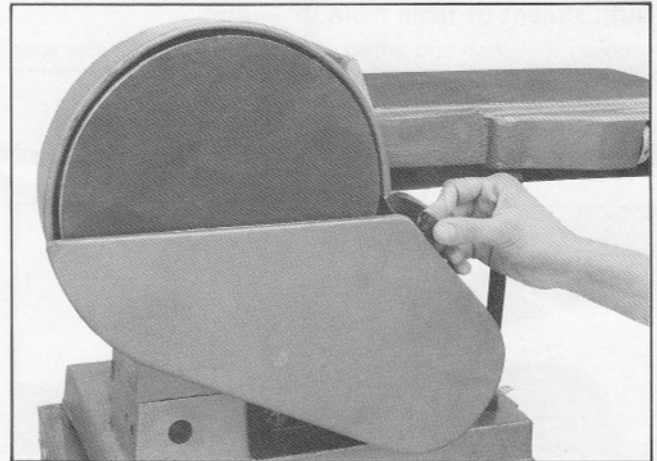

Fig. 10
1. Loosen the knob and open the disc cover as shown in Fig. 10.